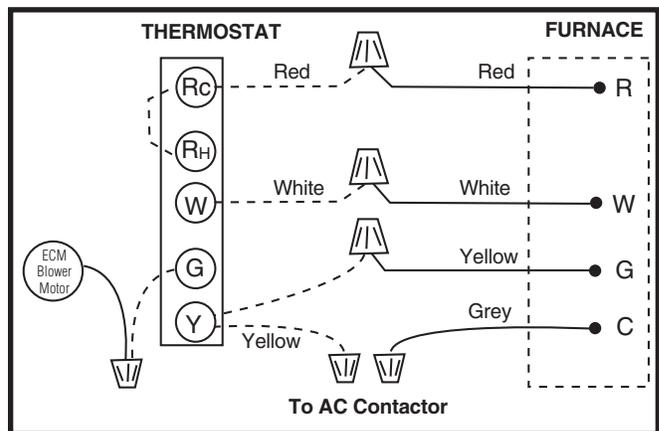

Figure 25. Thermostat Wiring
Proper line voltage polarity must be maintained in order for the control system to operate correctly. Verify the incoming neutral line is connected to the white wire and the incoming “hot” line is connected to the black wire. The furnace will not operate unless the polarity and ground are properly connected as shown in Figure 25 (page 13).
2. Connect the thermostat wires to the furnace low voltage pigtailed (dependent on the installation application). See Figure 25 \(page 13\). **NOTE:** If AC is installed with the furnace, a Y connection is required to be made at the furnace. See Figure 31 \(page 25\).